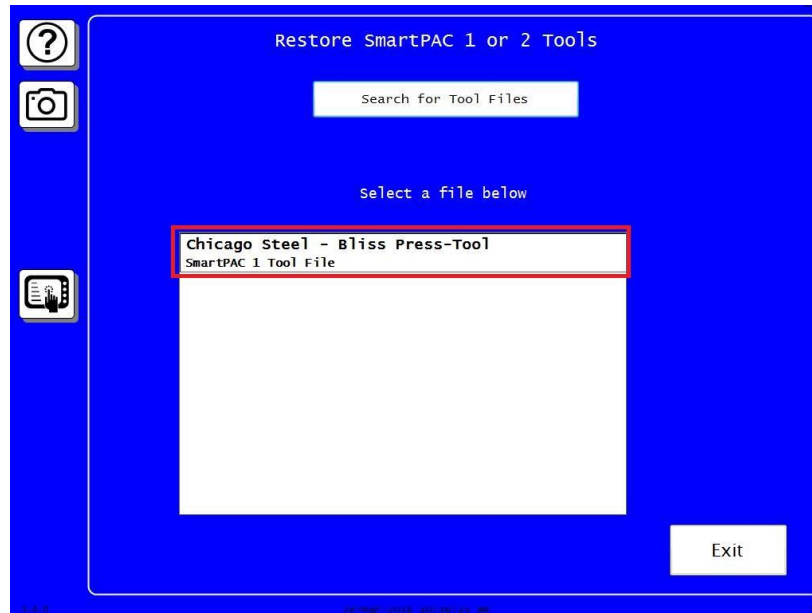

Figure 5. Select a File Below
5. Press the tool file you want (Figure 5).